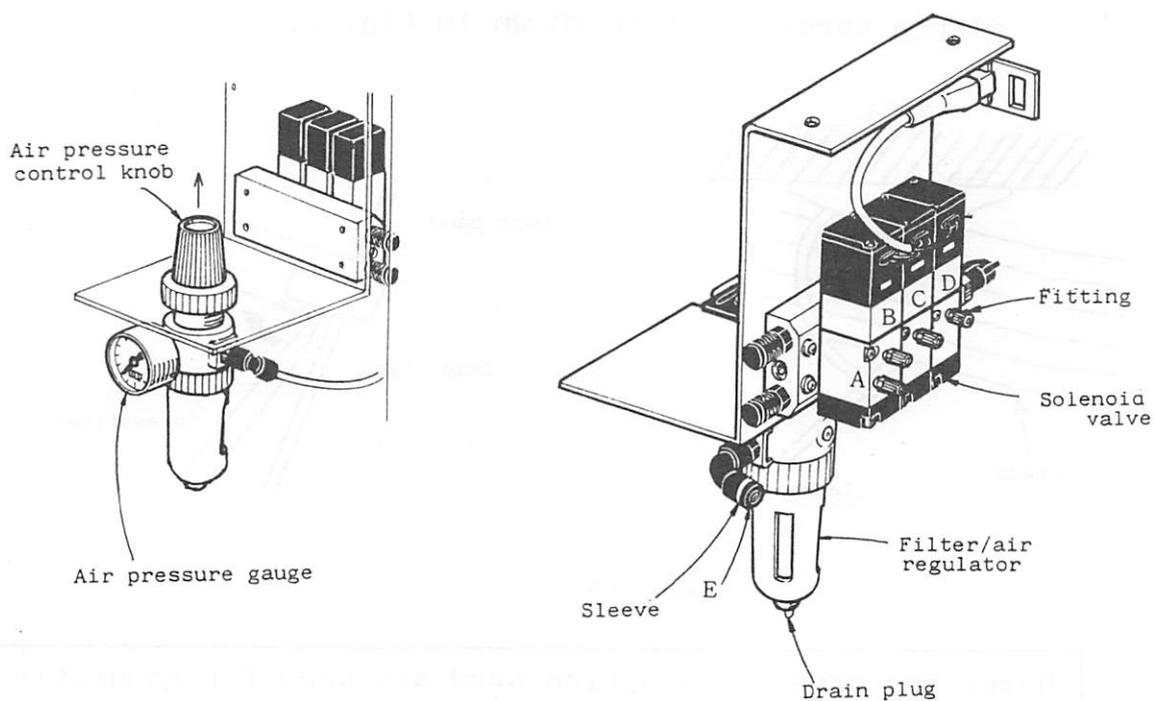

Fig. 4.5
- (1) Connect four air tubes ("A" - "D") to solenoid valve tube fittings ("A" - "D") shown in Fig. 4.5.
- (2) Connect one air tube to tube fitting "E" shown in Fig. 4.5.
- (3) Air pressure is to be set to $4\text{kg}/\text{cm}^2$.